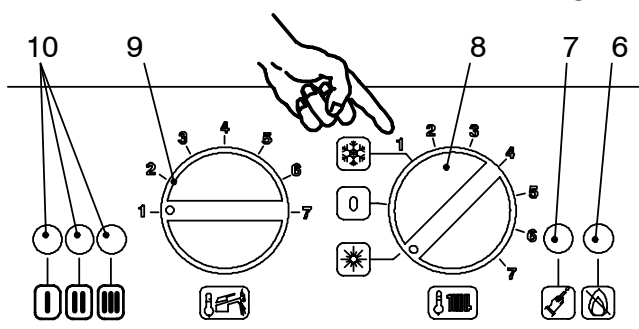

Fig. 7.6
- 5 Set the function knob 8 as illustrated in Fig. 7.6.